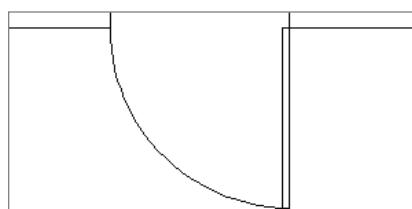

FIGURE 7.12 The result of a zoom window
2. Use Zoom Window to define a window that encloses the bathroom door. The view changes to a close-up of the area enclosed in your window (see Figure 7.12).